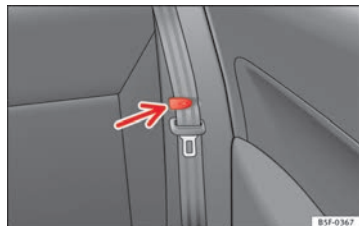

Fig. 91 Clip to support the seat belt.
- Place the side seat belts in the trim clip ⇒ Fig. 91.